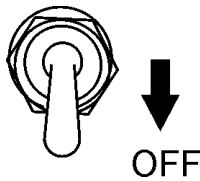

Figure 15. Idle Control Switch (OFF)
- Place idle control switch (Figure 15) in the **OFF** (down) position. This will allow the engine speed to run at about 3600 RPM's.
Placing the idle control switch in the **OFF** position (Figure 15) allows the engine to operate at a maximum speed of about 3600 RPM's.